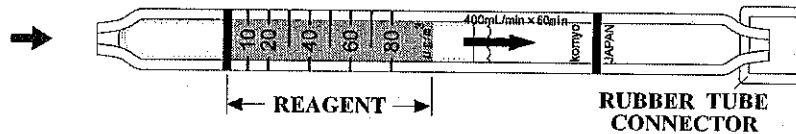

Fig.1
- ① Break both ends of the detector tube with attached ampoule cutter.
- ② Connect the detector tube into the rubber tube connector of the Model S-20 series air sampler as shown in Fig. 1 (Arrow mark shall point to the sampler.), and fix it into the detector tube holder.
- ③ Turn ON power of the air sampler.
- ④ In accordance with the instruction manual of each air sampler, preset the TIMER (Hours) at 60 minutes and adjust the sampling flow rate at 400mL/min.
- ⑤ After completion of sampling (60 minutes), remove the detector tube from the tube holder and read the scale at the maximum point of a stained layer.
- ① Temperature; No temperature correction is necessary.
- ② Humidity; No correction is necessary.
- ③ Atmospheric Pressure;